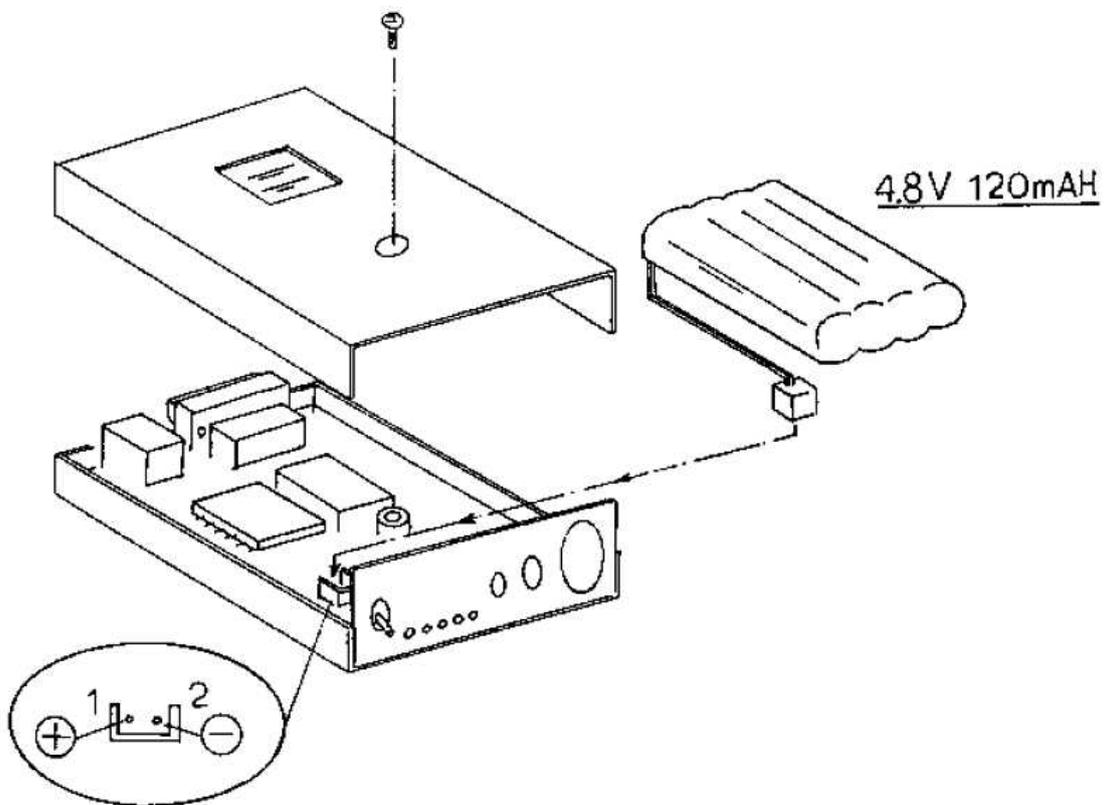

Figure 1-4
2. Refer to Figure 1-4 and remove the screw from the bottom of the unit. Then carefully remove the bottom cover.